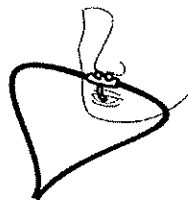

Figure 8
- Place the oral/nasal cannula onto the patient as shown in Figure 8.